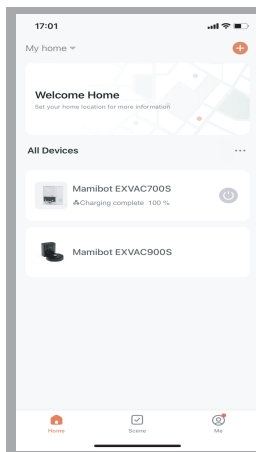
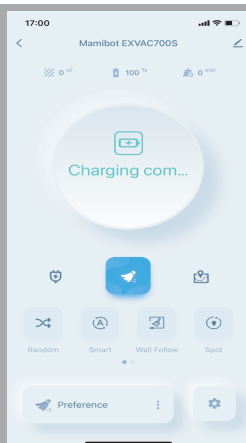
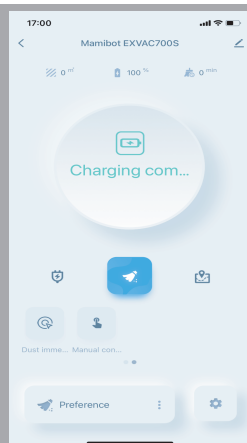

Fig.15
Fig.16
Fig.17
connection interface as Fig.13 and Fig.14, after connection done, tap the main interface “Mamibot EXVAC700S” as Fig.15, then enter into Fig.16 and Fig.17.
- On App, users can check the working status, the cleaning time, the cleaned area, the battery status, etc (Fig.16).
- Users can start the smart cleaning mode, random cleaning mode, edge cleaning mode or spot cleaning mode (Fig.16).
- Users can control the robot manually via manual button, and **vacuum the dust via dust immediately button** (Fig.17).